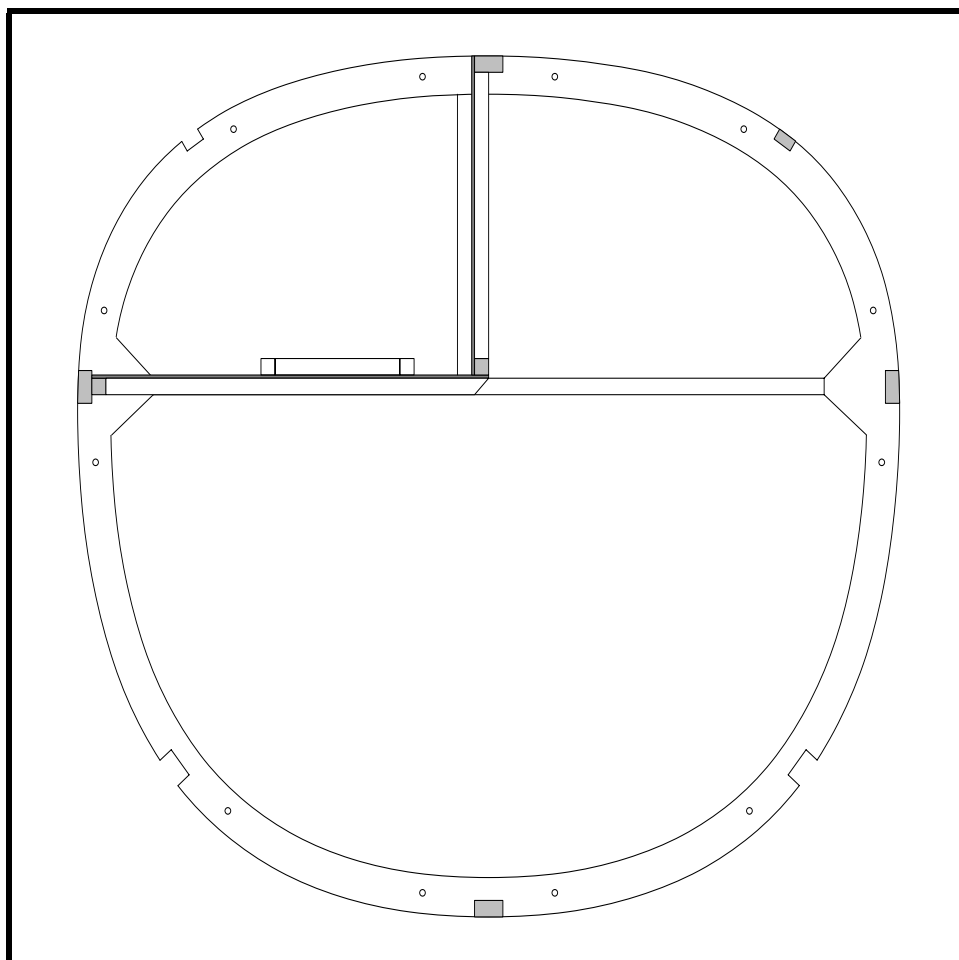

Figure 38
- ❑ Fit and install the 15x15 spruce brace on the center wall of the battery box at frame 8. See Figure 38.